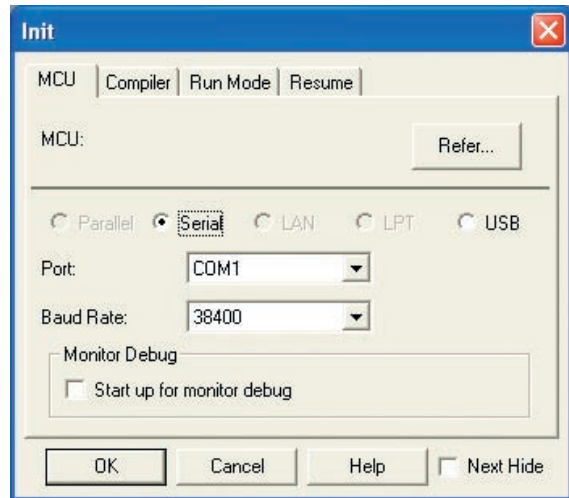

Figure 5. KD3083 Init Window
- b) Click on the debugger button  to launch the KD3083 debugger from HEW. The “Init” dialog box should open (Figure 5).